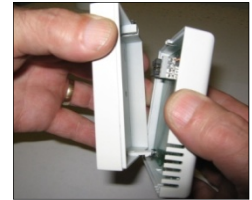

Fig 7
- Step 1** Using a screwdriver undo the screw on the top of the remote control case and pull the back case away (see Fig 7).